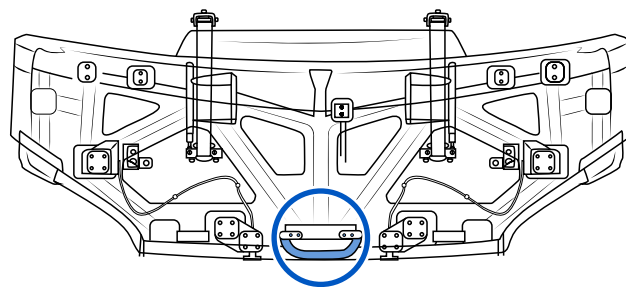
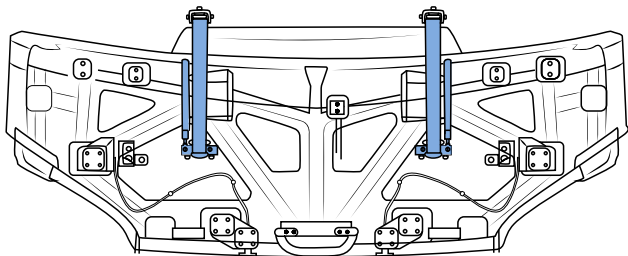

Figure 14 - Location of handle under the hood
Figure 15 - Hood locking arms
3. Lift the hood; there is a handle located in the center, at the bottom edge of the hood (**Figure 14**).
4. Push both arms to lock the hood in the open position (**Figure 15**).
1. Grab the center handle, at the edge of the hood (**Figure 14**), and push the hood gently upwards while pulling on both arms of the safety mechanism (**Figure 15**) to unlock them.